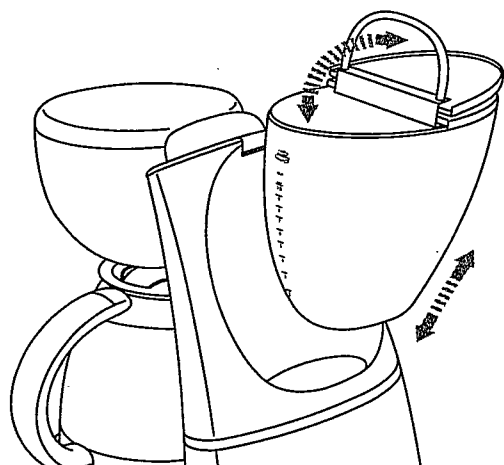

Figure 4
5. Remove Water Reservoir by raising the Hinged Water Reservoir Lid and lifting Water Reservoir Handle. (See Figure 4.)